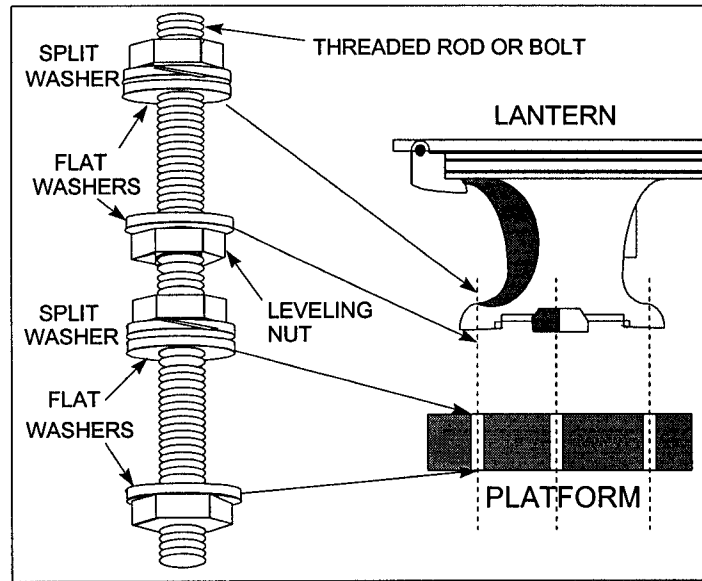

Figure 3-1
- a. Install three (3) threaded rods or bolts on the platform as shown in Figure 3-1 (only three of the four holes in the base are used). Add the leveling nut and flat washer at this time.